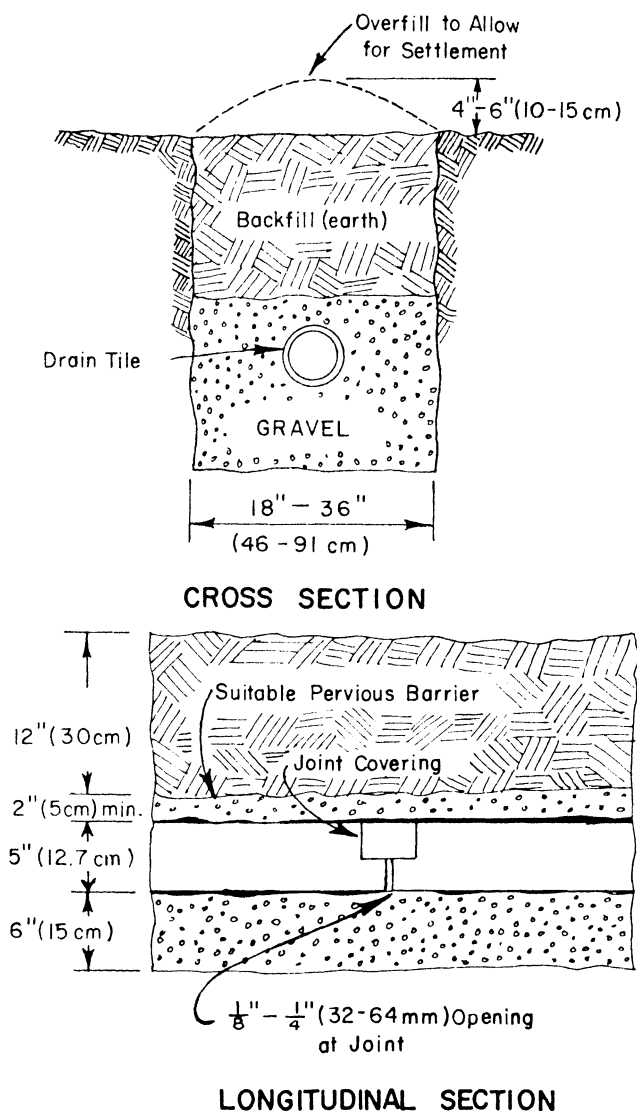

Figure 4. Typical section of absorption or disposal trench.
*Figure 4* illustrates a typical absorption trench. Dig the trenches 24 to 36 inches (61 to 91 cm) deep and be sure that they are nearly level,